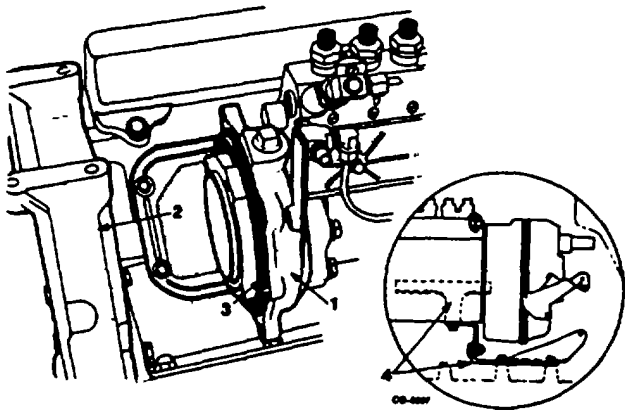

Figure 196. Removing Injection Pump
13. Remove four injection pump adapter to engine front cover mounting bolts. Remove two support bracket bolts on right side of pump' and two mounting bracket nuts underneath injection pump, remove pump (Figure 196).
14. Remove two bolts from lower pump mounting bracket and remove bracket (Figure 196).
2. Install injection pump mounting brackets to injection pump (Figure 196).
4. Secure injection pump mounting brackets to crankcase (Figure 196).